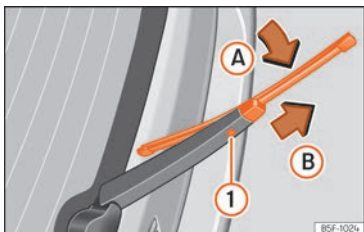

Fig. 85 Changing the rear wiper blade
- Turn the blade slightly »» **Fig. 85** (arrow **A**).
- Hold down the release button **❶** while gently pulling the blade in the direction of arrow **B**.
- Insert a new blade of the **same length and type** in the rear wiper arm in the opposite direction to the arrow **B** and hook into place button **❶**.